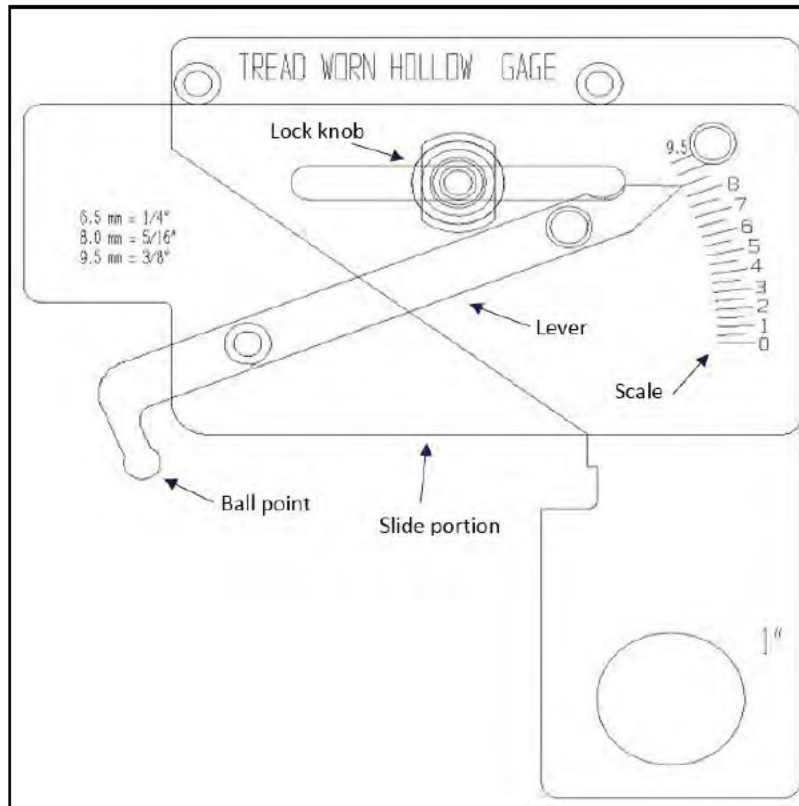

Figure 1. Tread Worn Hollow Gauge
- 9.1.2 Place the gauge in figure 1 over the tread of the wheel ensuring the gauge is fully seated on the front face of wheel rim as shown in figure 2.